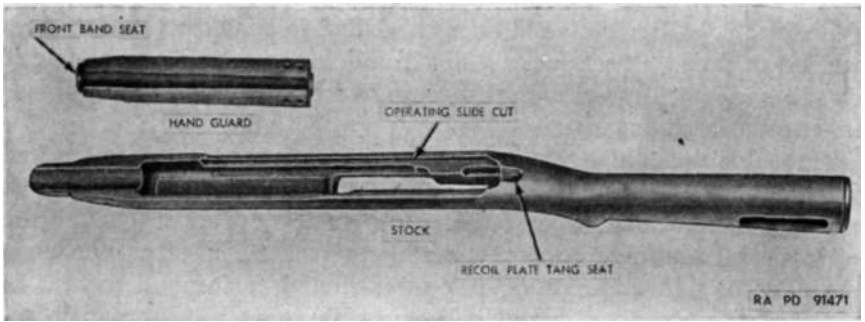

Figure 64. Stock and hand guard — carbine, cal. .30, M2.
d. STOCK (M2). Inspect stock the same as for M1 and, in addition, examine clearance cut on right for disconnecter, and clearance cut on left for the selector. There must be no binding of the selector or disconnecter due to undersized cuts. (See fig. 64.)